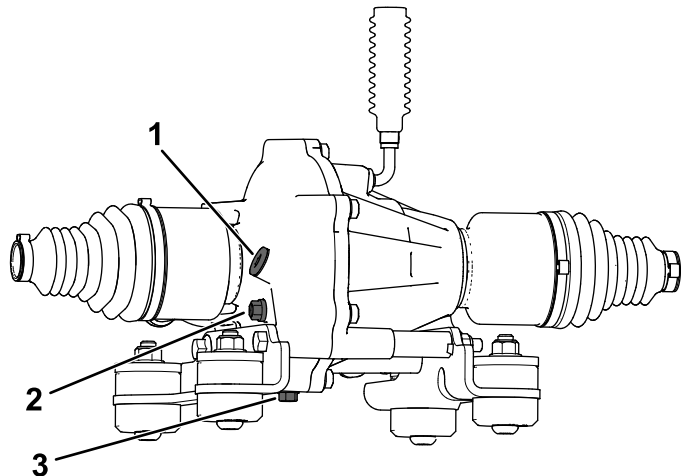

Figure 123
4. Remove the check plug on the front differential (Figure 123).
5. If the oil level is low, you may add the specified oil through the check plug opening (Figure 123).
4. Align a drain pan under the drain plug (Figure 123).
5. Remove the fill plug (Figure 123).
6. Remove the drain plug and allow the fluid to drain completely (Figure 123).